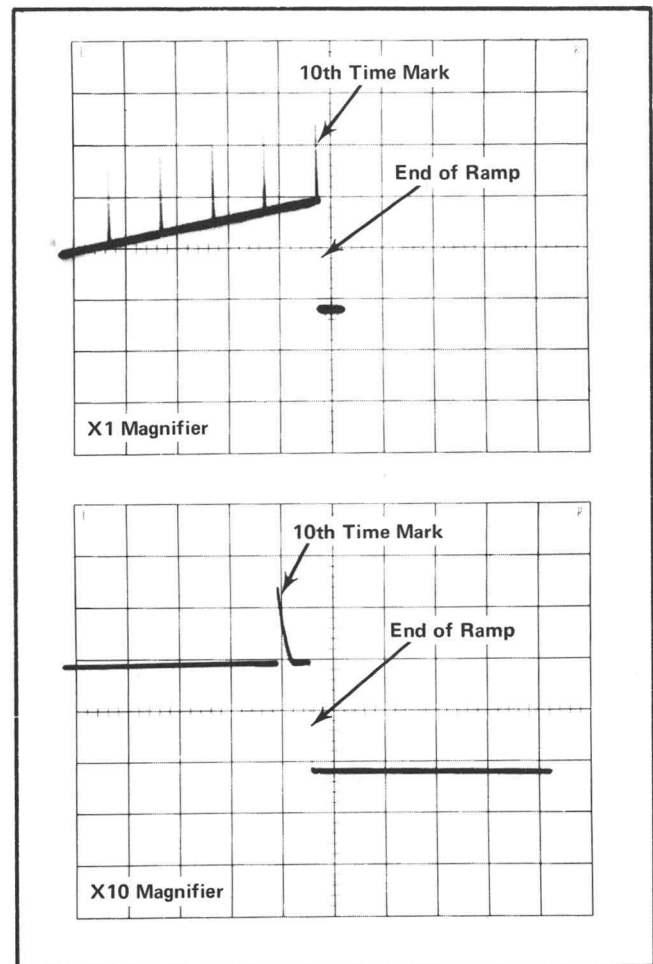

Fig. 5-1. Typical display of ramp and time marks for steps 12 and 13.
d. Display Ramp and Marker outputs as shown in Fig. 5-1.
a. Display ramp and markers as shown in Fig. 5-1.